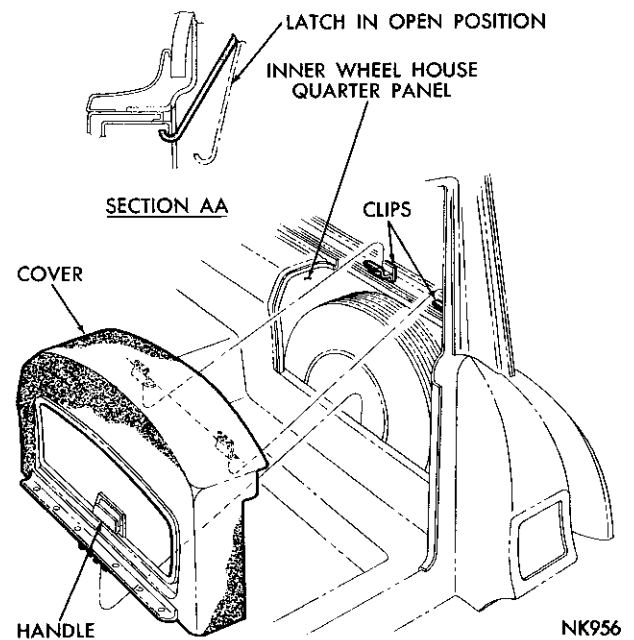
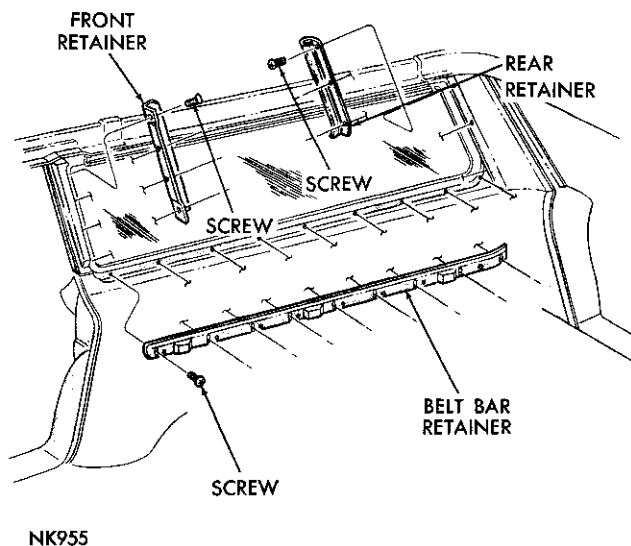

Fig. 128—Spare Tire Well Cover
Fig. 129—Pillar and Belt Bar Retainers
(2) Install the weatherstrip on the glass, making sure it is fully seated.
(3) Install a mason twine into the fence groove area of the weatherstrip starting at the top center of the weatherstrip.
(4) With an assistant, position the glass and weatherstrip in the window opening.
(5) With the glass being supported on the outside, enter the car and seat the weatherstrip on the fence by pulling the twine (Fig. 129) downward and toward the center of the glass.
(1) Pull the spare tire cover handle outward to release the latch from the well (Fig. 128).
(2) Pull the bottom portion of the cover outward until the latch clears the well area.
(3) Push the cover assembly upward to release the cover from the retention clips and remove the cover assembly.
(4) Remove the quarter window garnish mouldings.
(5) Remove the front upper pillar glass and weatherstrip lock retainer screws and retainer (Fig. 129).
(6) Remove the rear upper pillar glass and weatherstrip retainer screws and retainer.
(7) Remove the glass and weatherstrip belt bar retainer screw and retainer.
(5) Position the rear pillar upper retainer on the end of the belt bar retainer and rear pillar. Install the retaining screws.
(6) Position the body lock upper front pillar retainer on the end of the belt bar retainer and the pillar. Install the retainer screws.
(7) Install the garnish mouldings.
(8) Position the spare tire cover (Fig. 128) with latch in the open position, on the retention clips and push the cover downward until clips are locked in place.
(9) Release the latch handle to lock the cover in place.